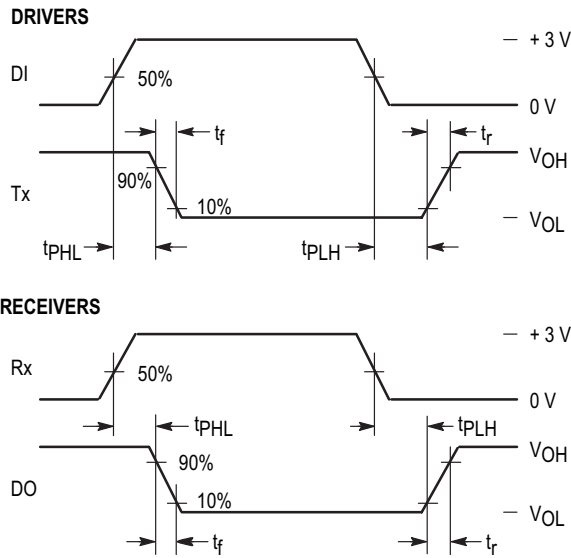

Figure 2. Switching Characteristics
**SWITCHING CHARACTERISTICS** (VCC = + 5 V, ± 10%, VDD = + 12 V, VSS = - 12 V, TA = - 40 to + 85°C; See Figures 2 and 3)